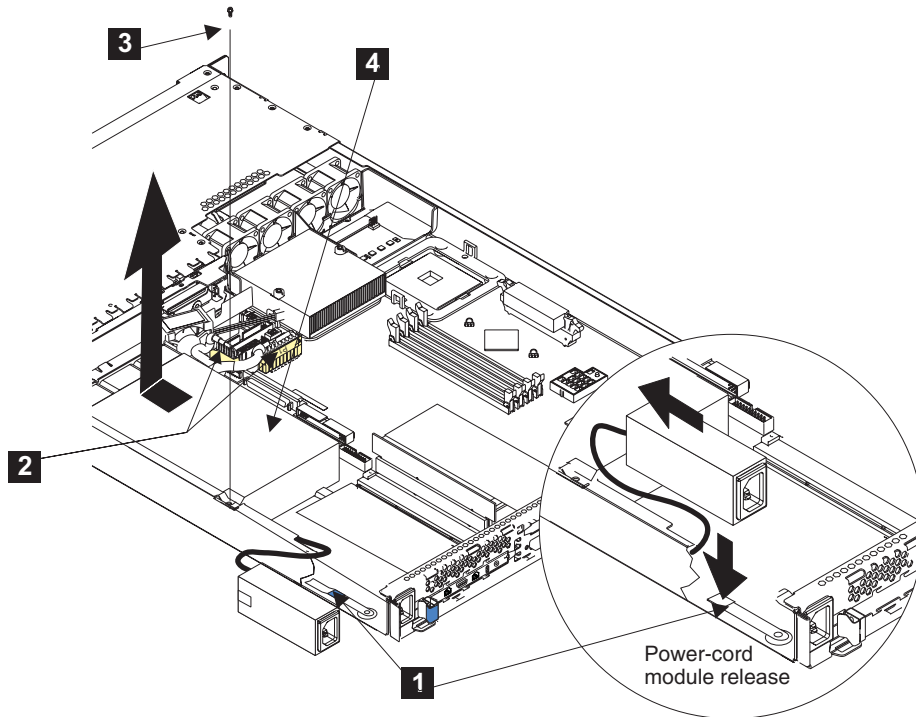

Figure 183. Removing the SAN Volume Controller 2145-4F2 power supply
5. Press down on the clip **1** at the front of the power-cable module, as shown in Figure 183, and slide the module toward the front of the SAN Volume Controller 2145-4F2 until the alignment tab is free of the slot that is on the side of the SAN Volume Controller 2145-4F2.